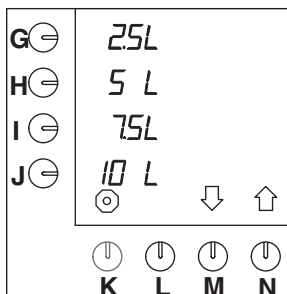

Fig. 33 Default pre-selection keys
The machine is default set to the unit L (= litres). This unit is default on the display with the preference keys (fig.33).
- Press selection key (N.)↑, until fig.33 appears on the display.